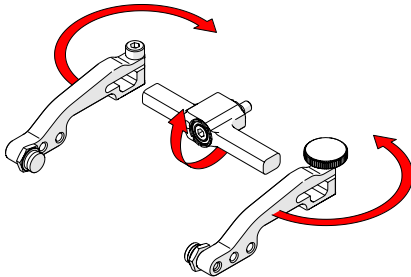

Fig. 62 - Flip yoke and reverse arms
3. Flip the yoke 180° and reverse the probe holder arms (Fig. 62).